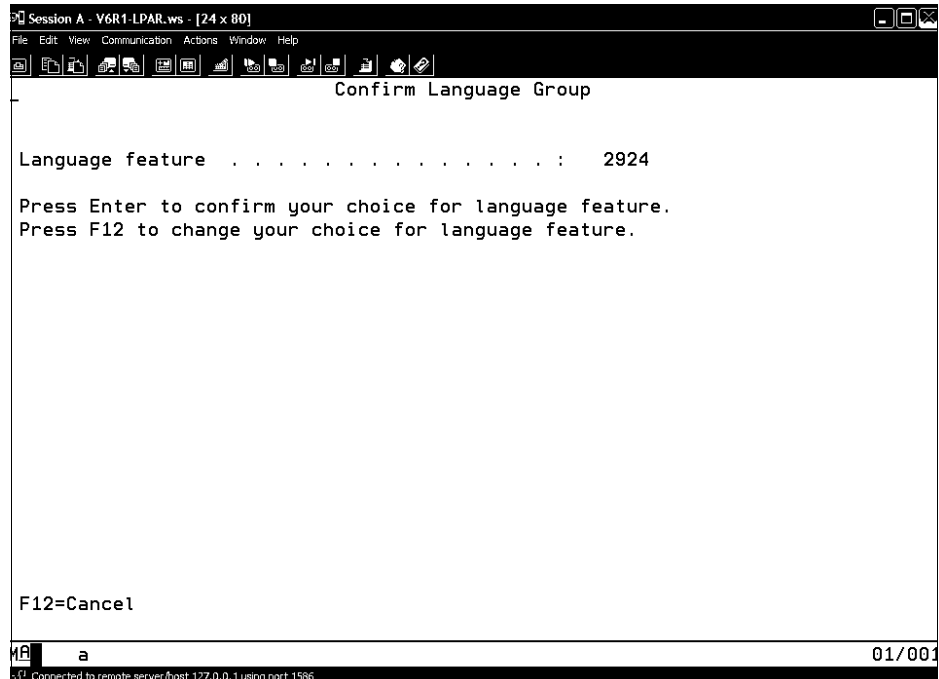

Figure 7-49 Confirm Language setup
- Depending on the native language, a selection can be made in the following screen as shown in Figure 7-49 on page 294.